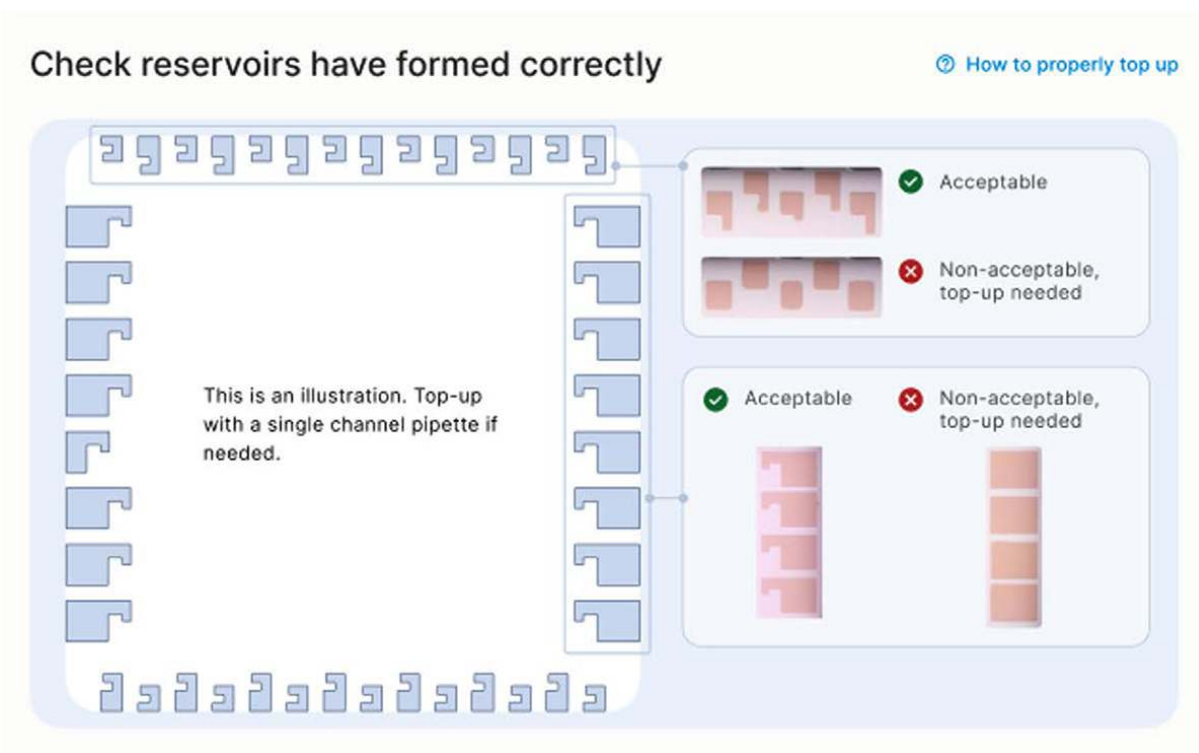

Figure 26: Check the reservoirs have formed correctly on the cartridge
3. Inspect the reservoirs have formed correctly in the cartridge as shown on the screen. If so, Press the **[Next]** button (Figure 26).
Note: Any presence of a marker on the reservoir is acceptable, as shown on the top right of Figure 26